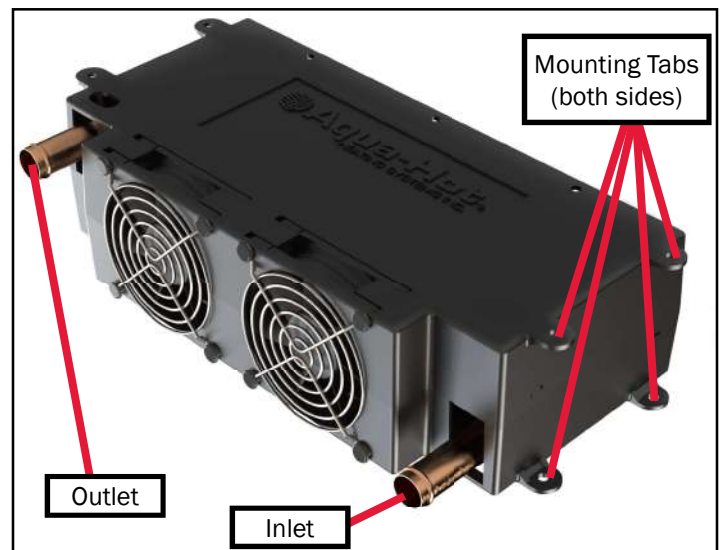

Figure 66
- The anti-freeze and water heating solution must flow in through the bottom of the heat exchanger, and out the top (reference Figure 66).
2. Mount each heat exchanger permanently into place. There are 4 tabs on both sides - see Figure 66.